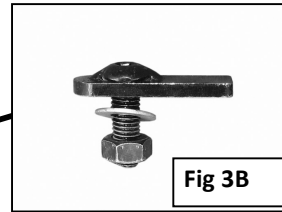

**Fig 2**
3. Locate the factory hole in the bottom of the floor panel next to the front body mount, **(Figure 2)**. Select (1) 8mm Bolt Plate. Insert the Bolt Plate into the hole, **(Figures 3A & 3B)**. Attach the driver side front Support Bracket to the Bolt Plate with (1) 8mm Lock Washer, (1) 8mm Flat Washer and (1) 8mm Hex Nut, **(Figure 4)**. **IMPORTANT:** Rotate Bolt Plate 90-degrees to the direction of the slot, **(Figure 3A)**. Bolt the lower end of the Support Bracket to the back of the Front Bracket with (1) 10mm x 30mm Hex Bolt,